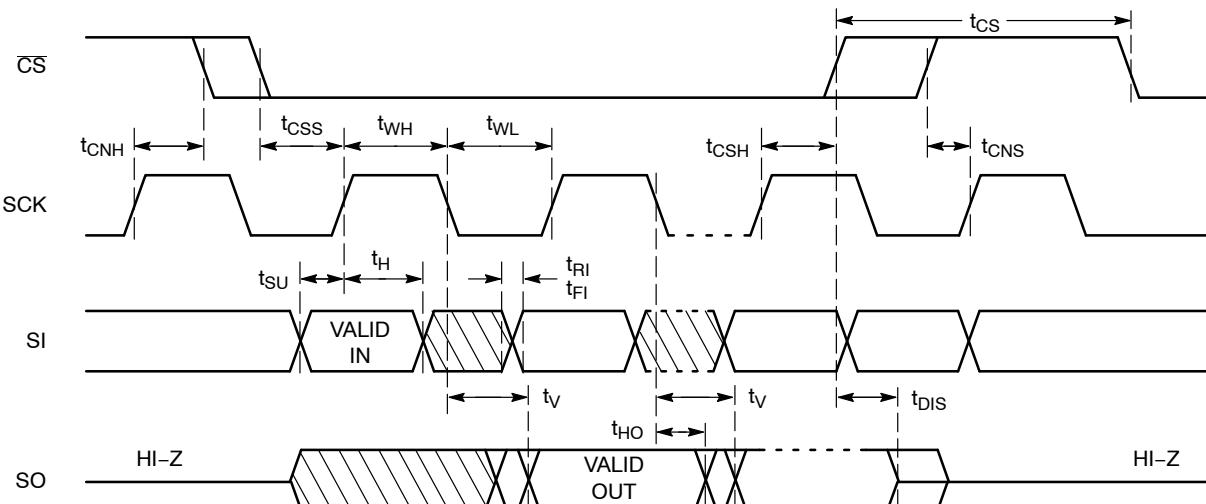

Figure 2. Synchronous Data Timing
8. All Chip Select (CS) timing parameters are defined relative to the positive clock edge (Figure 2).  $t_{CSH}$  timing specification is valid for die revision D and higher. The die revision D is identified by letter "D" or a dedicated marking code on top of the package. For previous product revision (Rev. C) the  $t_{CSH}$  is defined relative to the negative clock edge (please refer to data sheet Doc. No. MD-1006 Rev. U)
After a high to low transition on the  $\overline{CS}$  input pin, the CAT25010/20/40 will accept any one of the six instruction op-codes listed in Table 9 and will ignore all other possible 8-bit combinations. The communication protocol follows the timing from Figure 2.